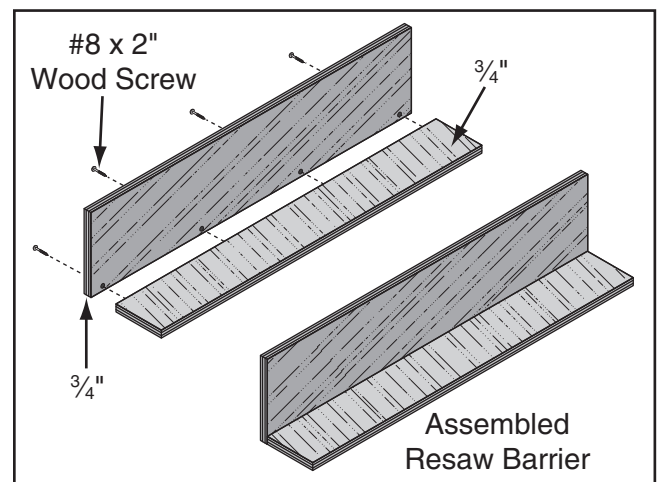

Figure 78. Resaw barrier.
3. Glue the end of the 3" board, then clamp the boards at a 90° angle with the larger board in the vertical position, as shown in **Figure 78**, fasten together with the wood screws.